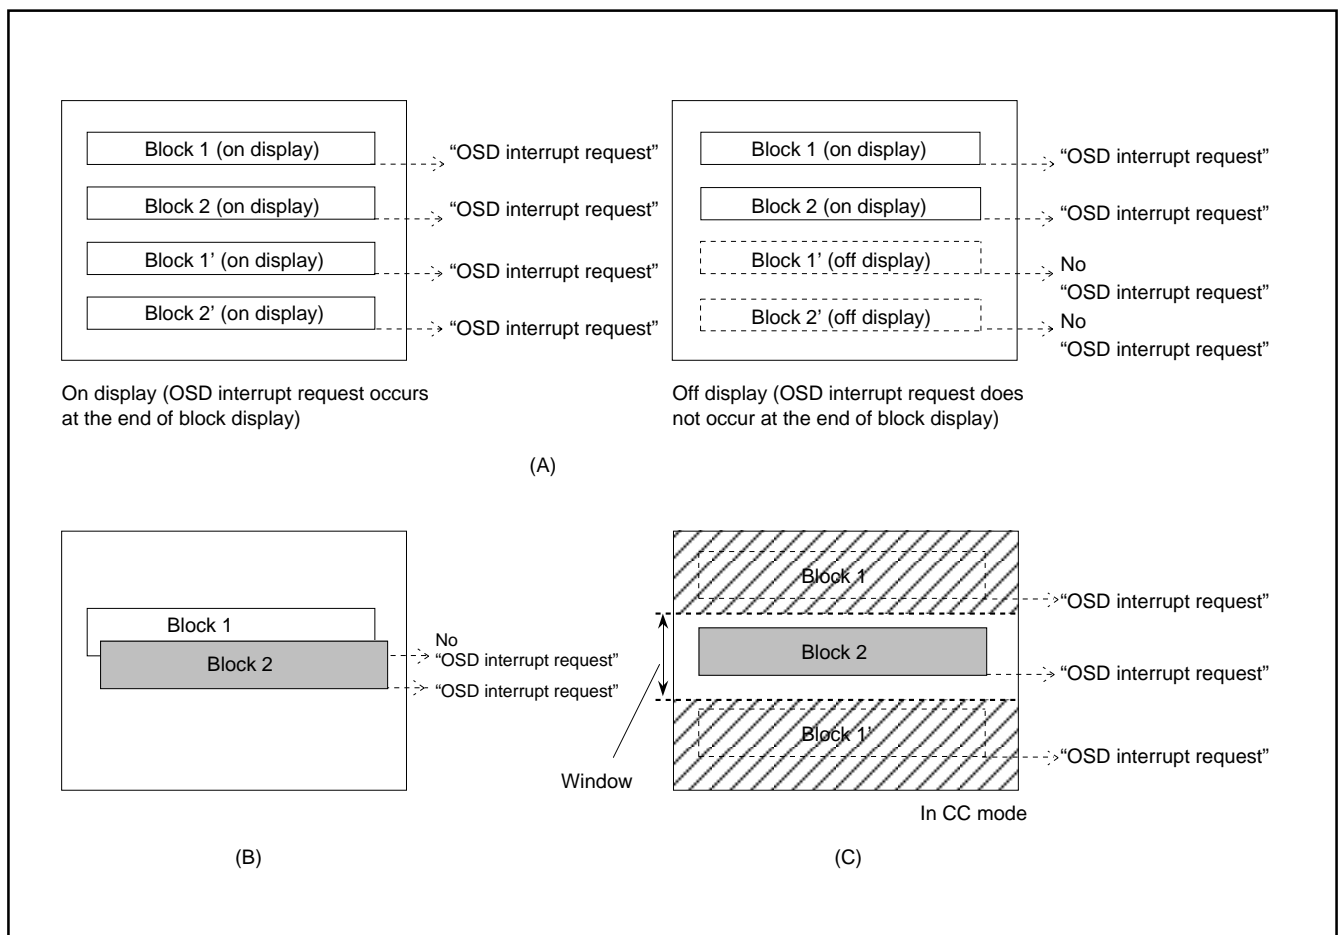

Fig. 8.11.24 Note on Occurrence of OSD Interrupt
Notes 1: An OSD interrupt does not occur at the end of display when the block is not displayed. In other words, if a block is set to display off by the display control bit of the block control register (addresses 00D2₁₆, 00D3₁₆), an OSD interrupt request does not occur (refer to Figure 8.11.24 (A)).
2: When another block display appears while one block is displayed, an OSD interrupt request occurs only once at the end of the second block display (refer to Figure 8.11.24 (B)).
3: On the screen setting window, an OSD interrupt occurs even at the end of the CC mode block (display off) out of window (refer to Figure 8.11.24 (C)).